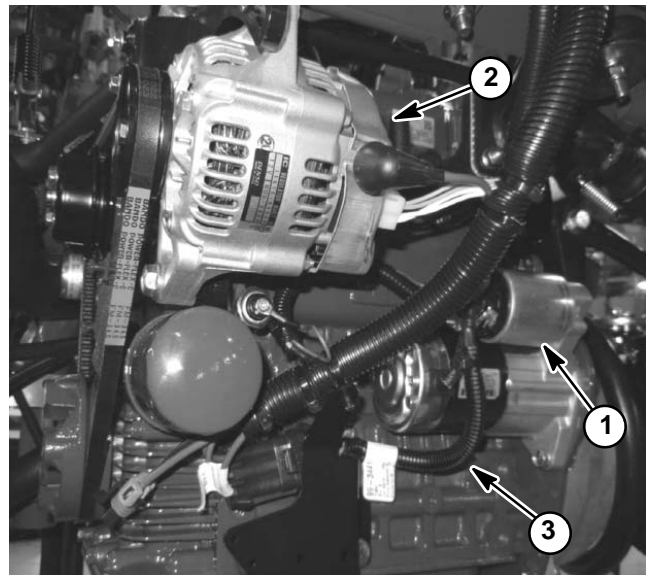

Figure 51
Greensmaster 3420 machines (diesel engine) use all three (3) of the harness fusible links. The fusible link harness on Greensmaster 3420 machines is connected to the starter B+ terminal (Fig. 51). Greensmaster 3420 machines use an additional fusible link that is included in the wire harness and connects the starter G terminal to the engine run solenoid pull coil.